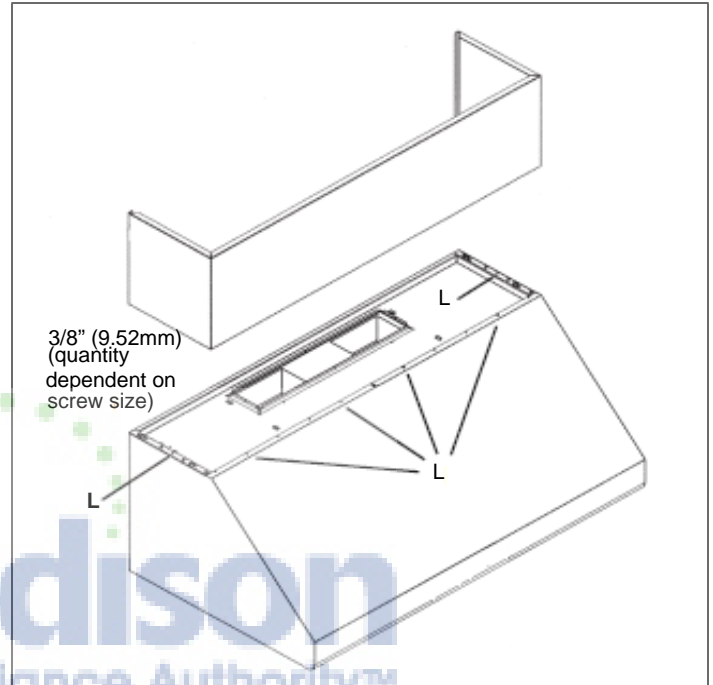

Figure 13: Attachment of Duct Cover(s) to Hood
Duct covers, sold separately, are available to cover the space between the top of the hood and ceiling (see Figure 13).
Optional duct covers shown in Figure 13 may be used to fill the space between the hood and ceiling in wall mount installations. 6" (152mm) and 12" (305mm) high duct covers are available and may be ordered separately (see "Parts Not Included" on page 4.)
2. Attach the duct cover(s) to the hood using sheet metal screws as shown in Figure 13.
3. From inside of hood, insert 5/8" (16mm) screws supplied through holes labeled "L," (1) on each side and (4) along the front, into bottom of the cover.